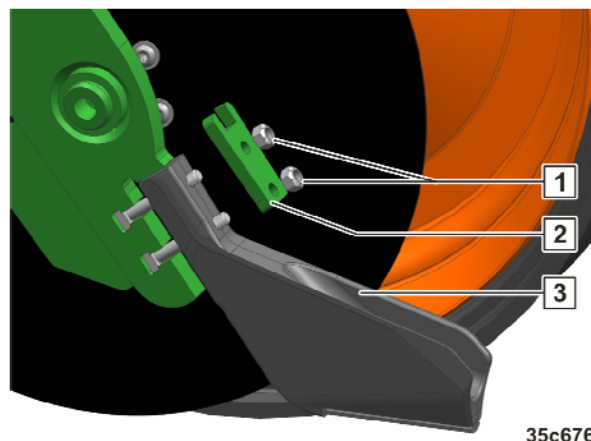

Fig. 316
11. Unscrew and remove the bolts (Fig. 316/1).
12. Dismount the hold-down clamp (Fig. 316/2).
13. Dismount the worn furrow former (Fig. 316/3).